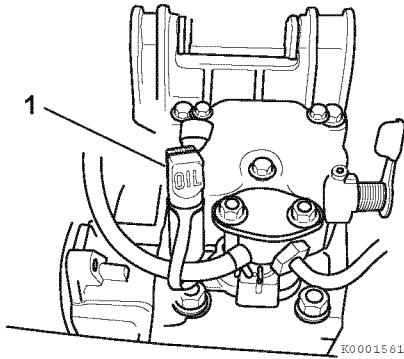

Figure 9
1. Remove the oil plug (1, **Figure 9**).
3. Reinsert the oil plug (1, **Figure 9**).